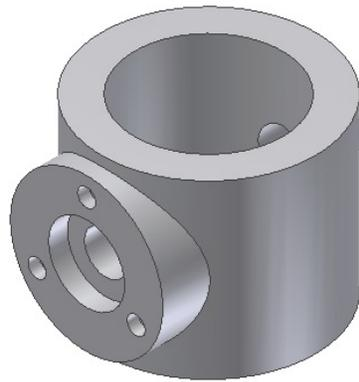

Figure 7-81 Model after creating the holes
- c. Add the counterbore hole and three smaller holes on the front face of the second feature, refer to Figure 7-81.
3. Create a circular pattern containing three instances of the drilled holes. The model after creating the counterbore hole and the three smaller drilled holes is shown in Figure 7-81.